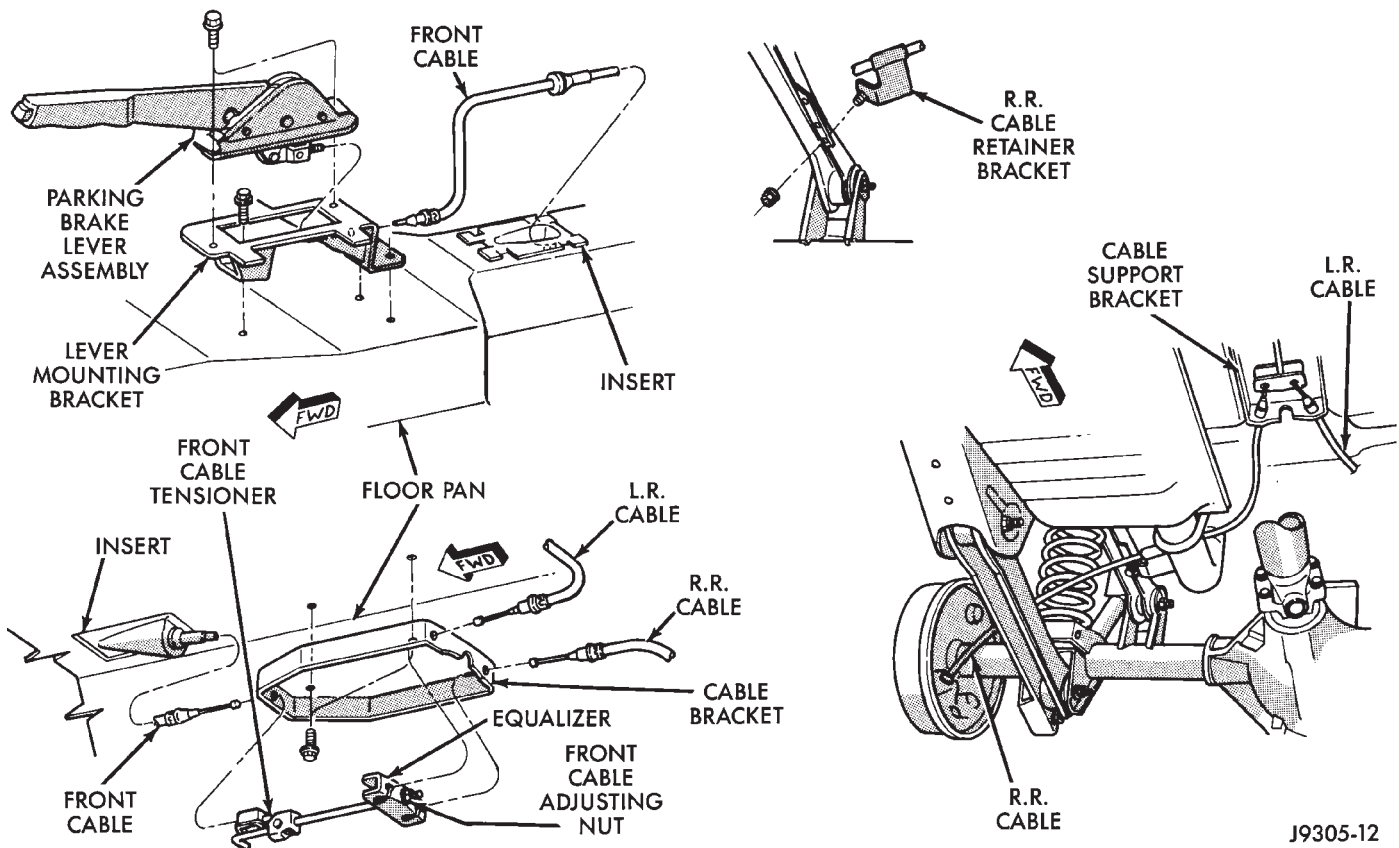

Fig. 7 Parking Brake Lever And Cable Components
(11) Remove screws attaching parking brake lever to bracket (Fig. 7) and lift lever upward for access to front cable.
(12) Disengage front cable from parking brake lever and remove lever assembly from vehicle.